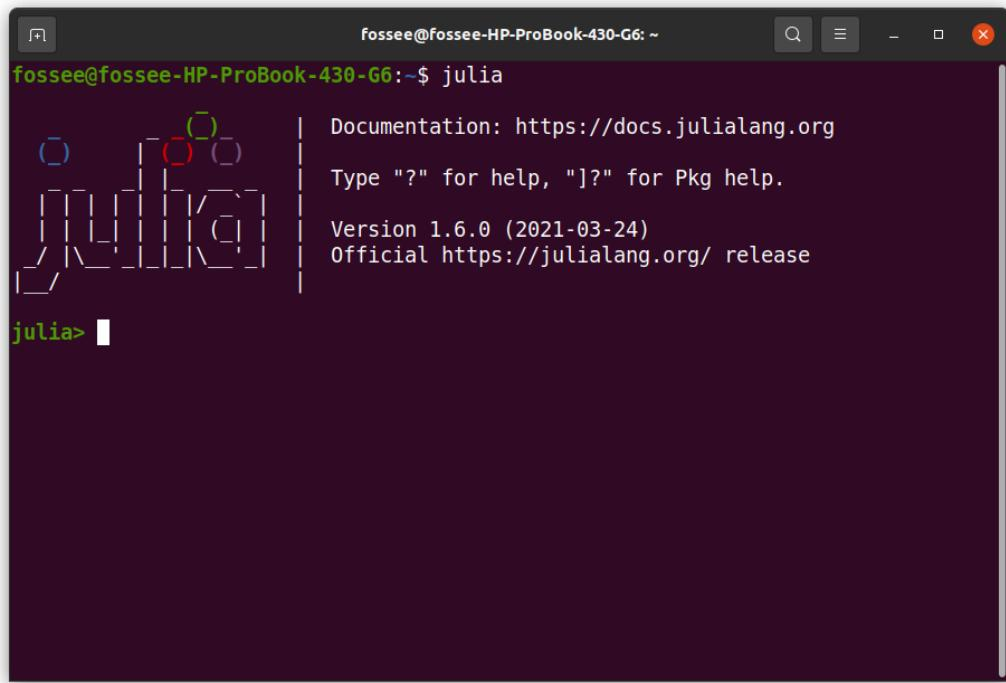

Figure 3.26: Linux terminal to launch Julia REPL
Julia is now installed and can be invoked from the Terminal. In the Terminal, type `julia` and press Enter. It should launch Julia in an interactive session (also known as a read-eval-print loop or "REPL"), as shown in Fig. 3.26. When run in interactive mode, Julia displays a banner and prompts the user for input. By
default, Julia REPL appears in Julian prompt. It is the default mode of operation; each new line initially starts with **julia>**, as shown in Fig. 3.26. It is here that you can enter Julia expressions. Hitting return or Enter after a complete expression has been entered will evaluate the entry and show the result of the last expression.
1. Launch Julia in interactive mode, as shown in Fig. 3.26.
We can also check the status of this package to verify whether it has been installed successfully or not. For this, we need to get back to the Julia REPL. Inside **Pkg** REPL, press backspace. The moment you press backspace, you get back to Julia REPL, as shown in Fig. 3.26. Now, type **using Pkg** and press Enter. This command will not generate any output. Now type **Pkg.status()** and press Enter. It should display the list of packages installed in Julia's environment. Please make sure that **LibSerialPort** is present in the list of packages being shown. To exit the interactive session, type **CTRL+D** or type **exit()**.